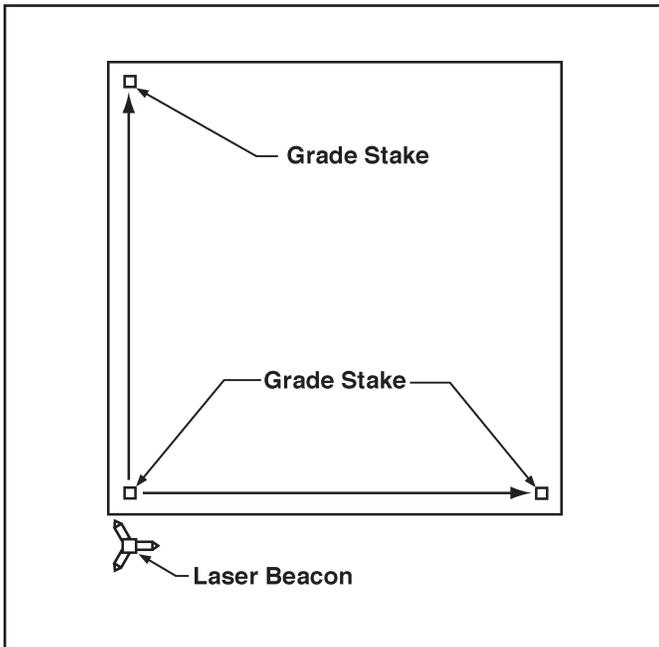

Figure 28. Method Two: Align Rotating Laser with Grade Stakes
- Place the Rotating Laser a few feet (meters) behind the first grade stake and in line with one of the far grade stakes (it is not critical to align the Rotating Laser exactly). (Refer to Figure 28.)